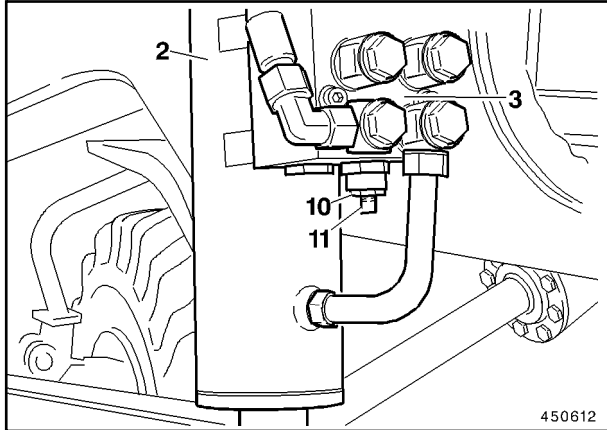

Fig. 2
To actuate the valve, loosen lock-nut (10, Fig. 2) and lower the blade by turning out setscrew (11) with an Allan key (part of the tool-kit).